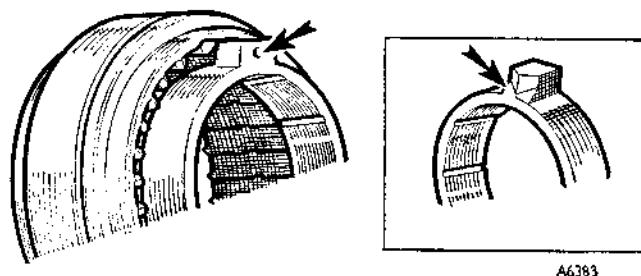

Fig. Fb.14
**NOTE.**—The baulk rings of the two synchronizer assemblies are not interchangeable. The first and second speed synchronizer baulk rings are identified (see Fig. Fb.14) by a drill point on one of the baulk ring lugs or by the fillets at the base of the lugs.